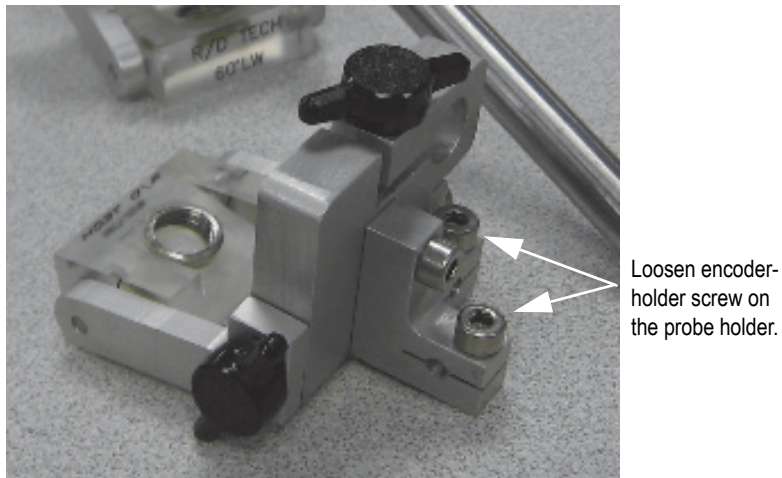

Figure 1-7 The two encoder holder screws
1. Use the hexagonal key to loosen the screw securing the Mini-Wheel encoder pin into the encoder holder (see Figure 1-7 on page 15).